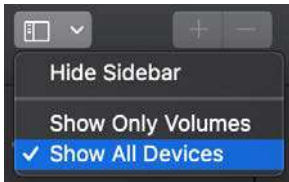

Figure 5.8 – The View menu
2. Click the **View** menu to show *Figure 5.8*: